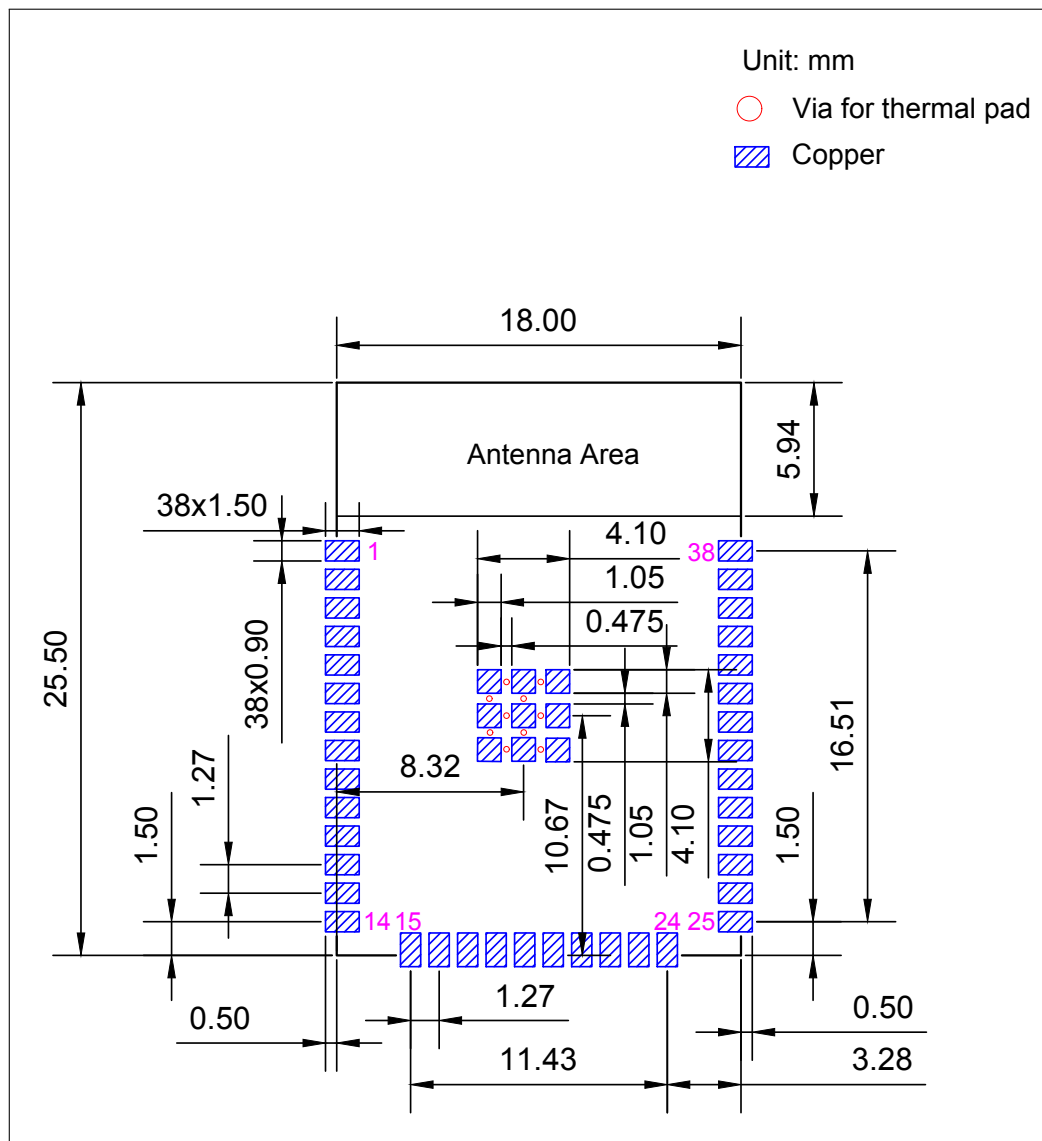

Figure 6: Recommended PCB Land Pattern
- Figures for recommended PCB land patterns with all the dimensions needed for PCB design. See Figure 6 Recommended PCB Land Pattern.
- Source files of recommended PCB land patterns to measure dimensions not covered in Figure 6. You can view the source files for ESP32-WROOM-32 with Autodesk Viewer.